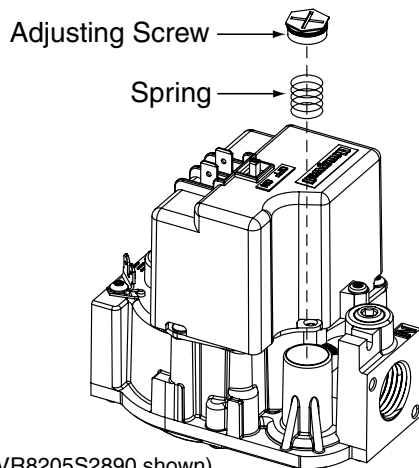

Figure 3. Pressure Regulator Adjusting Screw and Spring
2. Remove and discard the plastic pressure regulator adjustment screw from the gas valve as shown in Figure 3.
3. Remove the black colored spring (Figure 3) from the gas valve.
- Using a short screwdriver, slowly turn the adjustment screw (Figure 3) to obtain the appropriate manifold pressure as listed in Table 2. **Note: Turning the screw clockwise increases the pressure, turning the screw counter-clockwise decreases the pressure. To prevent backing the screw all the way out from the valve, turn the screw slowly.**